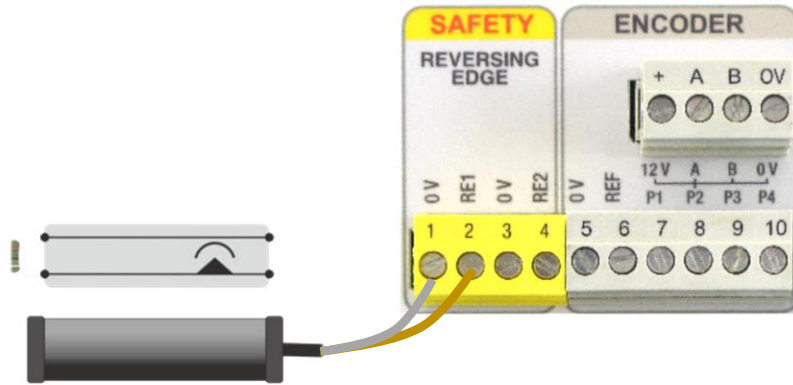

Figure 11: Reversing Safety Edge Wiring: Conductive
3. Connect an 8k ohm terminating resistor across the safety edge as shown in Figure 11.